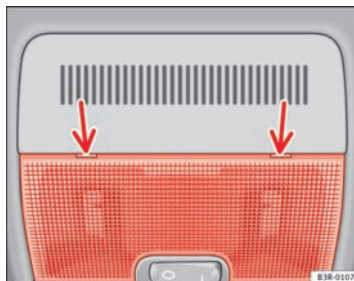

Fig. 82 Detail of headliner: Points for applying screwdriver
- Carefully insert the flat end of a screwdriver at the rear of the glass cover on the interior light ⇒ fig. 82.